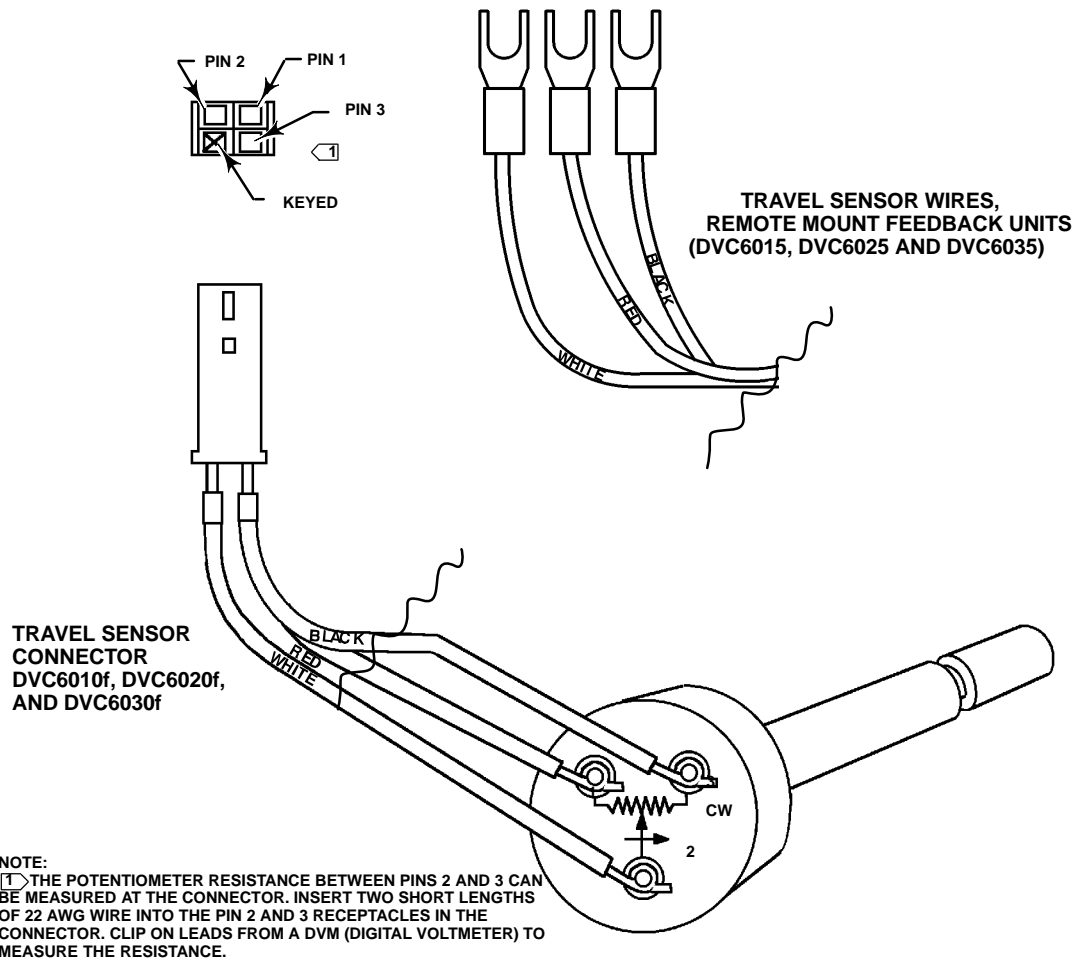

Figure 7-6. Potentiometer Resistance Measurement
5. Align the feedback arm (key 79) to the housing (key 1) by inserting the alignment pin (key 46) through the hole marked "A" on the feedback arm. Fully engage the alignment pin into the tapped hole in the side of the housing. Position the feedback arm so that the surface is flush with the end of the travel sensor shaft.
6. Connect a multimeter set to a resistance range of 50,000 ohms. Measure the resistance between pins 1 and 3 of the travel sensor connector. Refer to figure 7-6 for pin location. The resistance should be between 40,000 and 50,000 ohms.
8. Re-range the multimeter to a resistance of 3000 ohms between pins 2 and 3 of the travel sensor connector. Refer to figure 7-6 for pin location.
5. Connect a multimeter set to a resistance range of 50,000 ohms. Measure the resistance between pins 1 and 3 of the travel sensor connector. Refer to figure 7-6 for pin location. The resistance should be between 40,000 and 50,000 ohms.
7. Re-range the multimeter to a resistance of 7000 ohms between pins 2 and 3 of the travel sensor connector. Refer to figure 7-6 for pin location.
8. Hold the arm assembly (key 91) in a fixed position so that the arm is parallel to the housing back plane and pointing toward the terminal box. Position the arm assembly so that the outer surface is flush with the end of the travel sensor shaft.
6. Align the feedback arm (key 79) to the housing (key 1) by inserting the alignment pin (key 46) through the hole marked "A" on the feedback arm. Fully engage the alignment pin into the tapped hole in the housing. Position the feedback arm so that the outer surface is flush with the end of the travel sensor shaft.
7. Connect a multimeter set to a resistance range of 50,000 ohms. Measure the resistance between pins 1 and 3 of the travel sensor connector. Refer to figure 7-6 for pin location. The resistance should be between 40,000 and 50,000 ohms.
9. Re-range the multimeter to a resistance of 3000 ohms between pins 2 and 3 of the travel sensor connector. Refer to figure 7-6 for pin location.